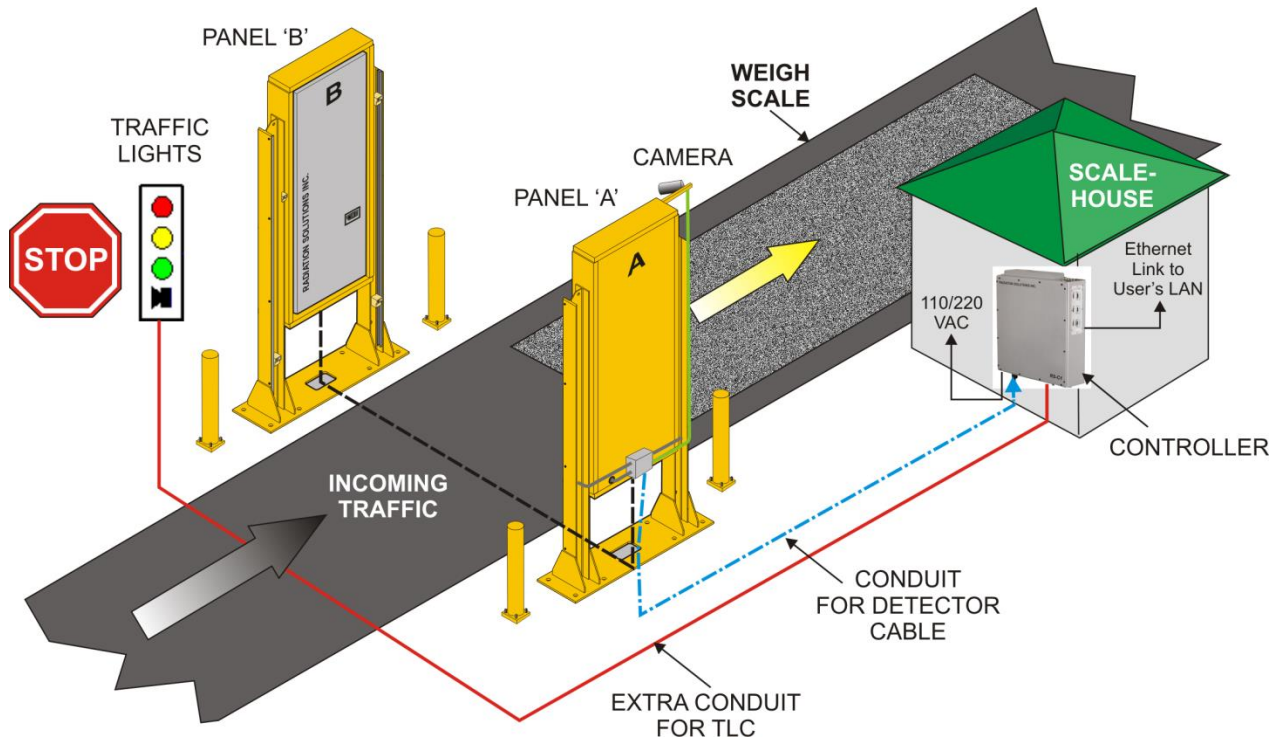

Figure 2-1 - RS-300/400 Site Plan (2 Detector System)
- Figure 2-1 shows the correct designations – **NOTE that the figure shows a vehicle ENTERING the detector portal on the way INTO the plant.** A (5 detector) system is shown to cover most possibilities, note that a 2 detector system would only be detectors A1 and B1.